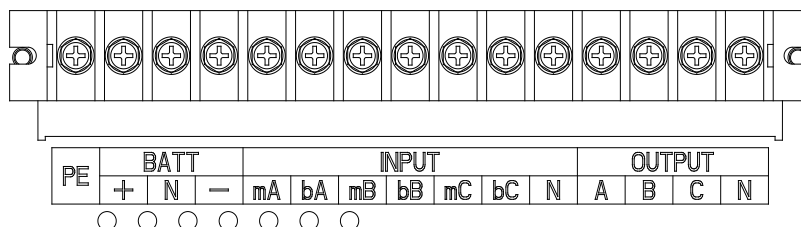

Fig.2-9 Connections terminals for 15/20kVA
2. Open the back door of the cabinet, remove the plastic cover. The input and output terminal, battery terminal and protective earth terminal are shown in Fig.2-9.